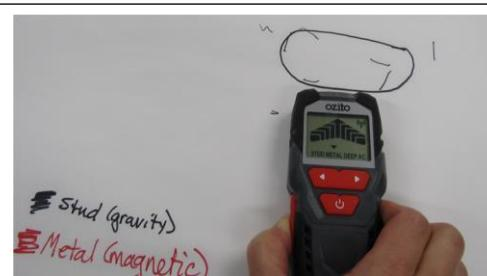

Figure 3: The strong reading on 'metal' indicates that this spot may have a metal-containing ore.
7. Repeat steps 4-6 using the 'metal' setting to represent a magnetic survey (Figure 3).